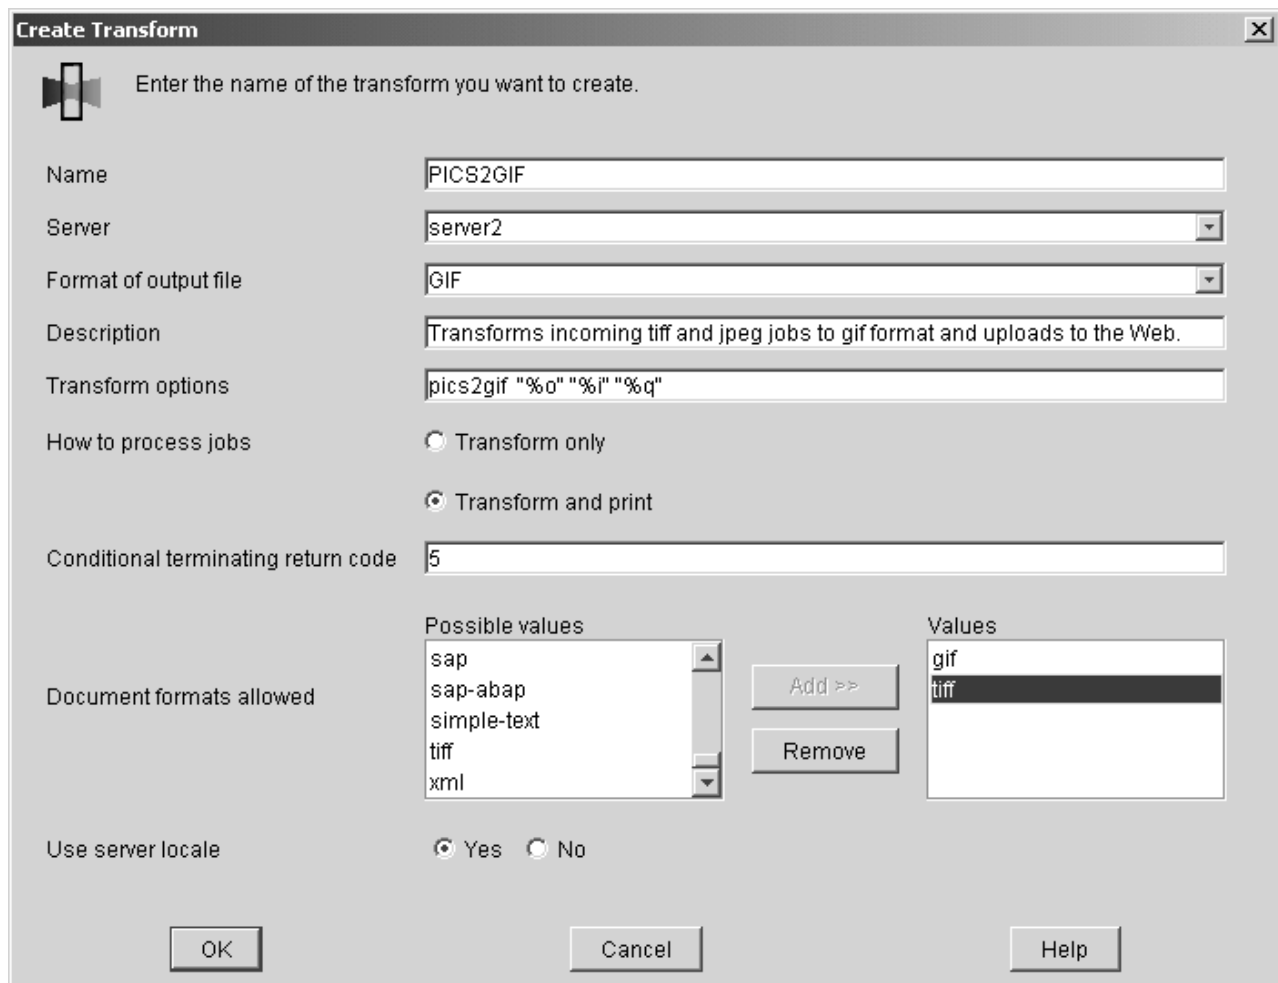

Figure 17. Create Transform dialog: Define a conditionally terminating transform
3. In the **Create Transform** dialog, fill in the fields as shown in Figure 17. These values create a transform that transforms both JPEG and TIFF input data into GIF output and then provides a return code of 5 if the transform has completed successfully without returning to InfoPrint Manager for printing.